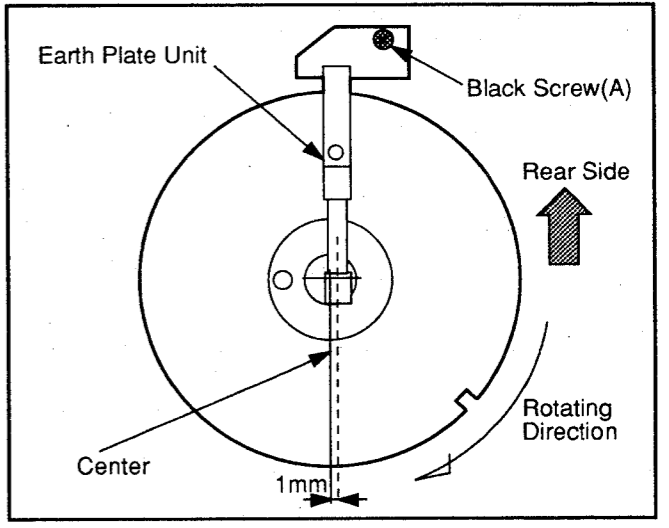

Fig. M6
- Adjustment of the D.D. Cylinder Unit. Refer to Fig. M6.
Remove the Mechanism Chassis and see if the Earth Plate Unit is more than 1mm (but not more than 2mm) from the center of the plate to the center of the shaft in Fig. M6. If required, adjust the Earth Plate Unit by loosening Black Screw (A).
Remove the Mechanism Unit. Place it upside down. Check to see if the Earth Plate Unit is properly set in a position just less than 1mm (but not more than 1mm), as measured from the center of the plate to the center of the Cylinder Shaft as shown in Fig. M6. If required, adjust the Earth Plate Unit position by loosening Black Screw (A).